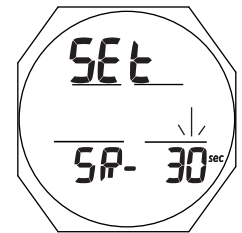

Fig. 54 - SET SAMPLING RATE
Set Sampling Rate (SR), information includes (Fig. 54):